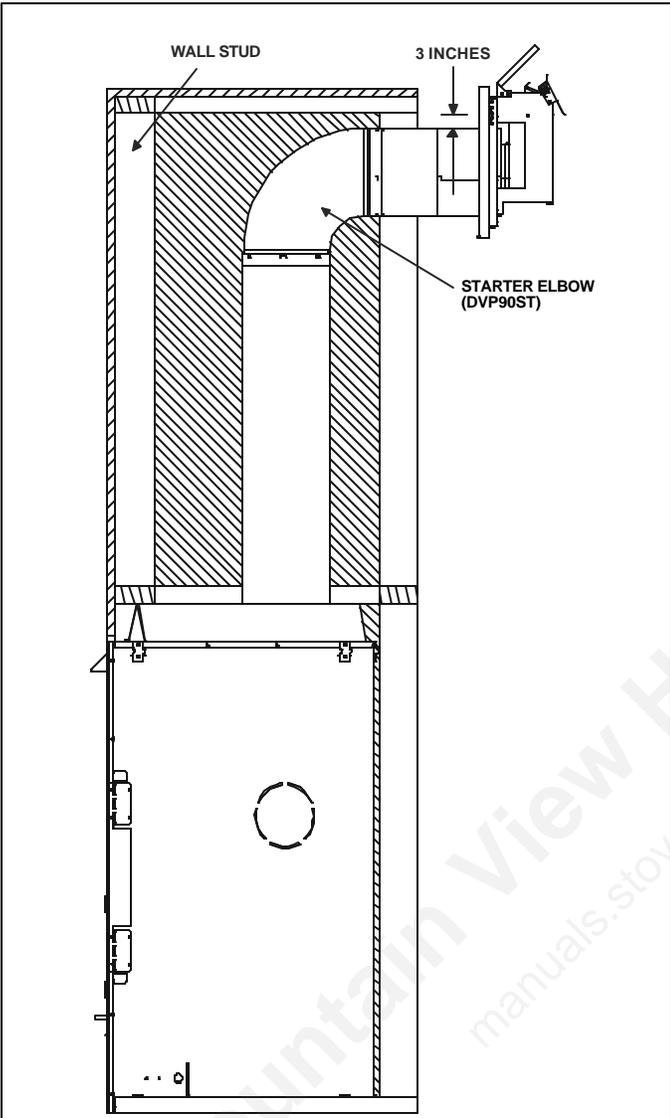

Figure 4. Non-combustible zone
* When using DVP-Series pipe additional clearance and/or installation of a heat shield is required above the first 90° elbow (see Figure 4).
NOTE: When venting with a 3 foot vertical and 90° elbow as the first two vent components, the non-combustible zone is the entire width and depth of the firebox from the top of the fireplace to 3" above the horizontal vent. This area must remain free of combustibles (see Figure 4).